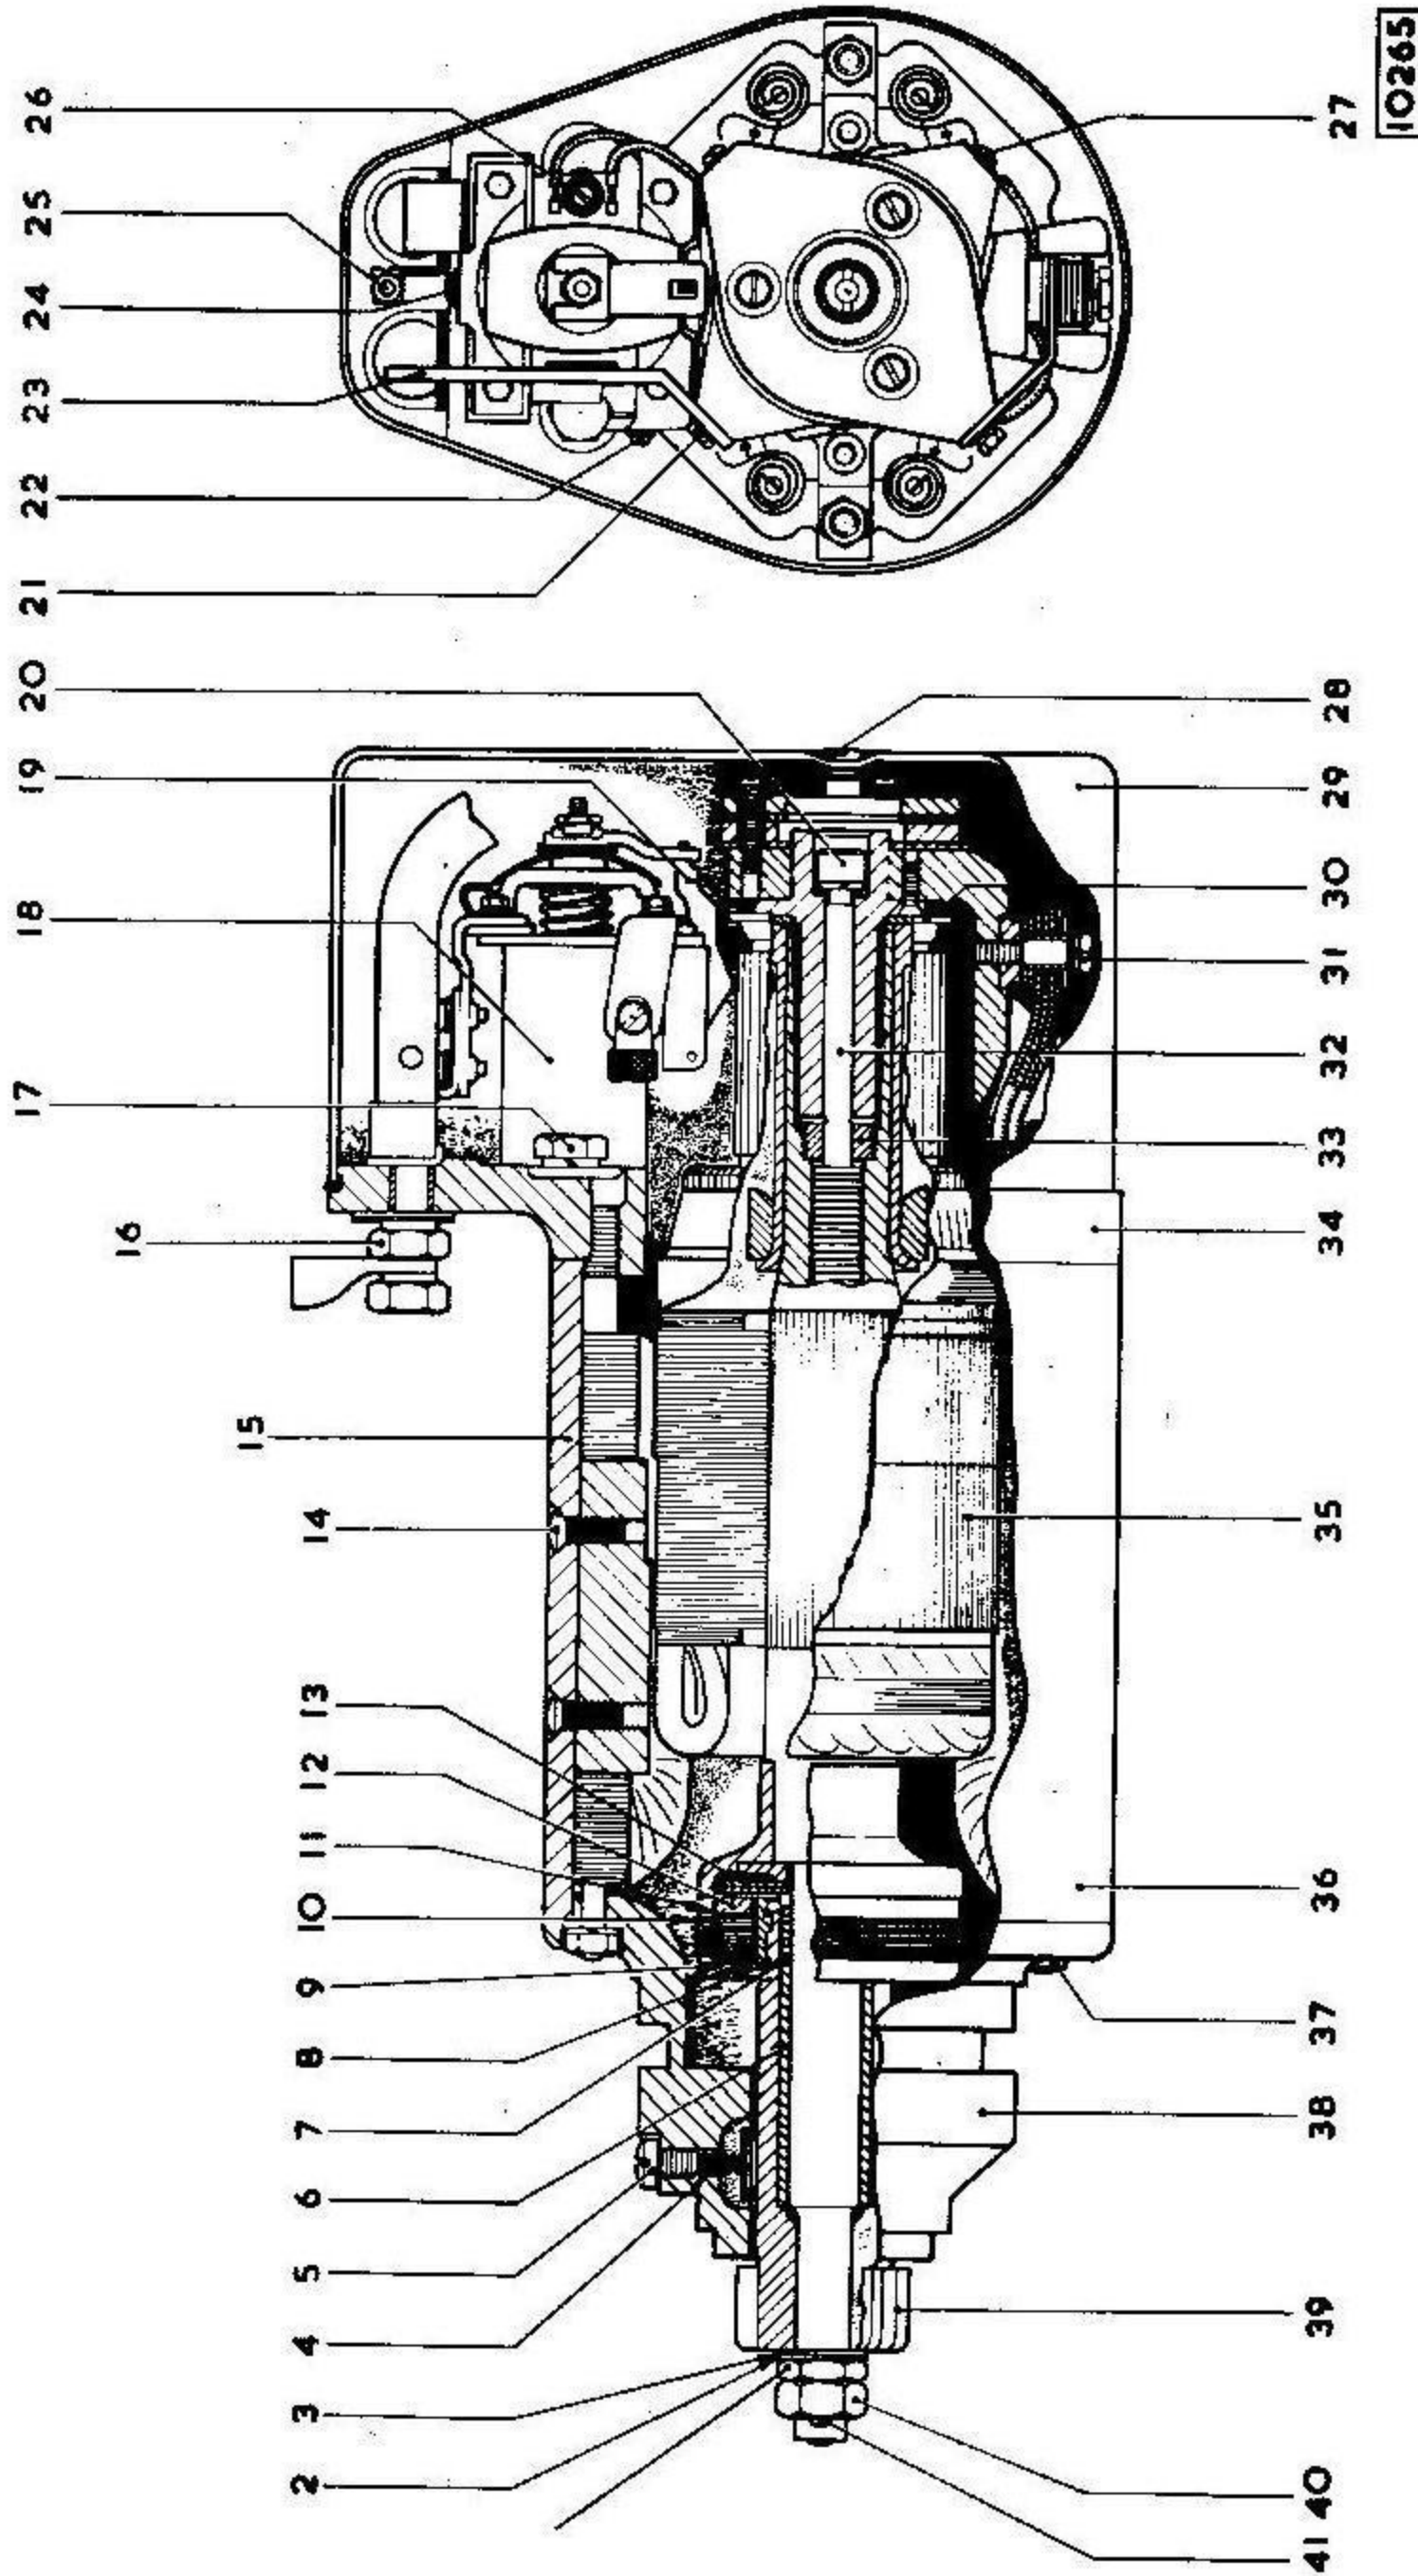

Fig. 12 Sectioned view of an axial starter motor (typical)
1. Unscrew screws (28) (Fig 12) and remove the commutator cover (29). On SL5 starters, also remove retaining clips and screws.
2. Unscrew the brush lead screws (27), lift the brush springs and remove the brushes from their holders. Removal of the brush lead screws also frees the field connections to the brushgear.